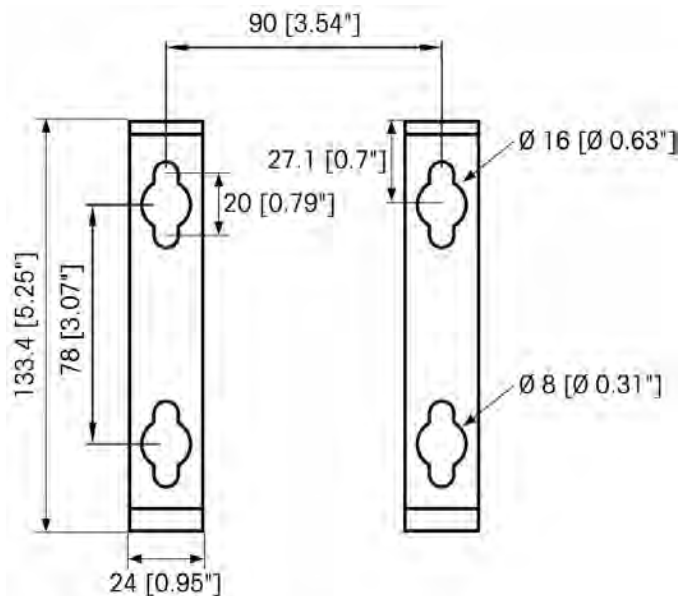

Figure 2-14: Template for Harsh Terminal Mounting
2. Mark the position of the bracket mounting holes on the surface to which the terminal will be mounted per the dimensions shown in Figure 2-14, or by holding the terminal up to the surface and marking through the bracket holes.